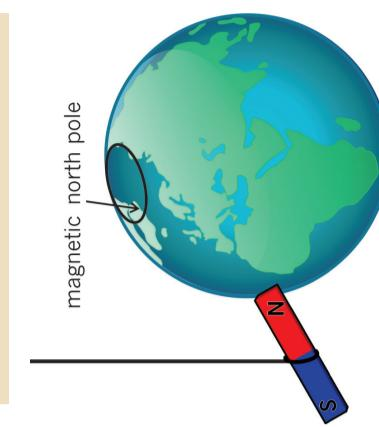

Figure 4: The north pole of a magnet points to the Earth's magnetic north pole.
Learners read about the difference between a "permanent" and a "temporary" magnet. They also find out that the Earth itself has a magnetic field. They then do practical investigations, which help them to visualise a magnetic field using the idea of magnetic "field lines". You should explain Figure 4 after learners have looked at it for the first time. The learners see the bar magnet hanging so that its north (N) pole points towards the top of the picture of the Earth globe. There is a point at the top of the globe called the geographic North Pole. On a globe model of the Earth, the whole ball spins around that N pole point, and of course, the other point at the bottom of the ball represents the south (S) pole.